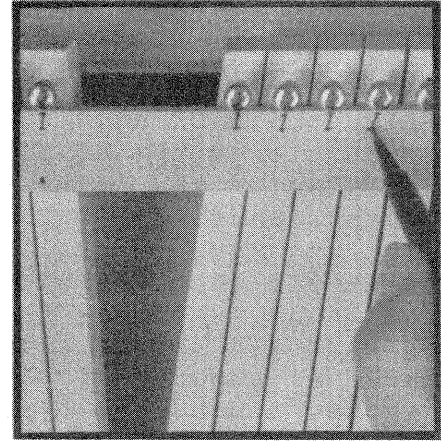

FIGURE 1-53 Mark the centers of the Capstan Screws.
- A. If the SCL marks are in line with or very nearly in line with the Capstan Screw centers, mark the centers of the Capstan Screws on the Ruler as shown in FIGURE 1-53. Make the marks at least 1/4" long and as perpendicular to the edge of the Ruler as possible. Label the first and last marks "5" and "84", then set the Ruler aside or give it to your assistant, if you have one, so he will have it available when he is ready to align the Key Solenoids in Section 5.